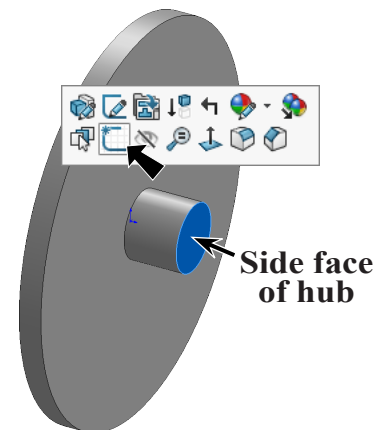
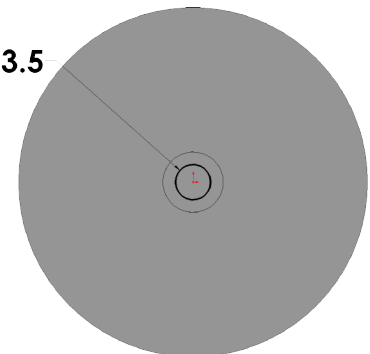

Fig. 8
Fig. 9
Step 1. Click the **side face of hub** and click **Sketch**  on the context toolbar, **Fig. 8**.
Step 3. Click **Circle**  (S) on the Sketch toolbar.
Step 4. Sketch a circle for the hole at Origin , **Fig. 9**.
Step 5. Click **Smart Dimension**  (S) on the Sketch toolbar.
Step 6. Dimension axle hole **diameter 3.5**, **Fig. 9**.